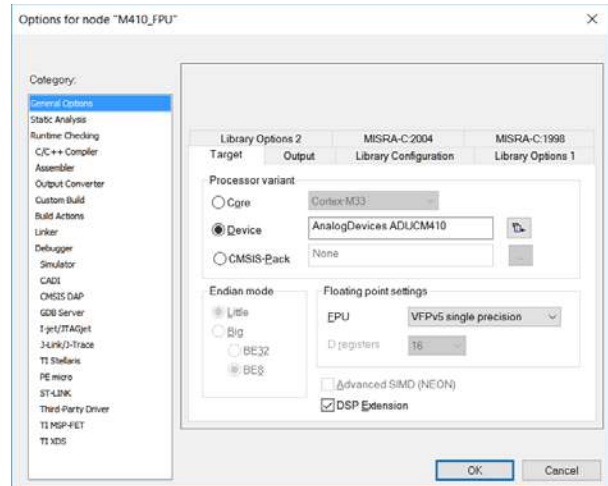

Figure 24. IAR IDE General Options
- From the **Category** section, click **General Options**. Then click the **Target** tab, and ensure the FPU box in the **Floating point settings** section is set to **VFPv5 single precision**, as shown in Figure 24.